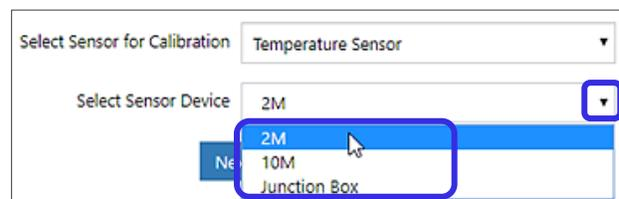

Figure 117: Select device for calibration
3. Click the down arrow icon ▼ in the **Select Sensor Device** field, and select the appropriate device to calibrate (Figure 117).